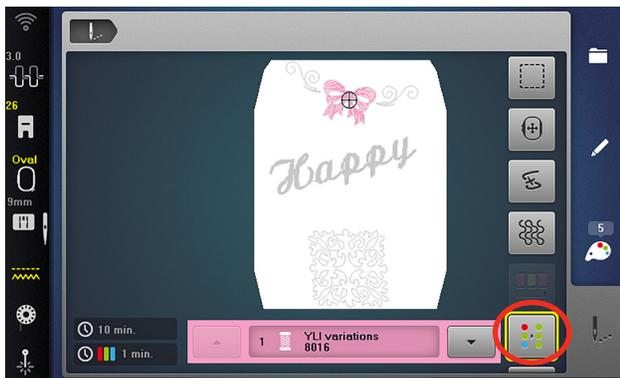

Fig. 29
27. Select the Single Color icon (Fig. 29).